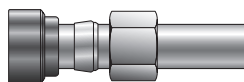
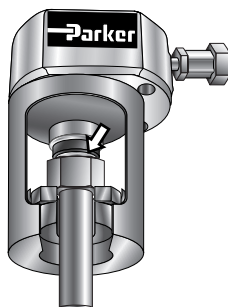

Figure 47
Figure 49
1. Assemble CPI™ nut, CPI™ Ferrule and body die onto tubing as shown in Figure 47. Be sure that the tapered end of the ferrule point toward the body die.
3. Insert Tube Assembly, Figure 47, into Nut Die as shown in Figure 49.